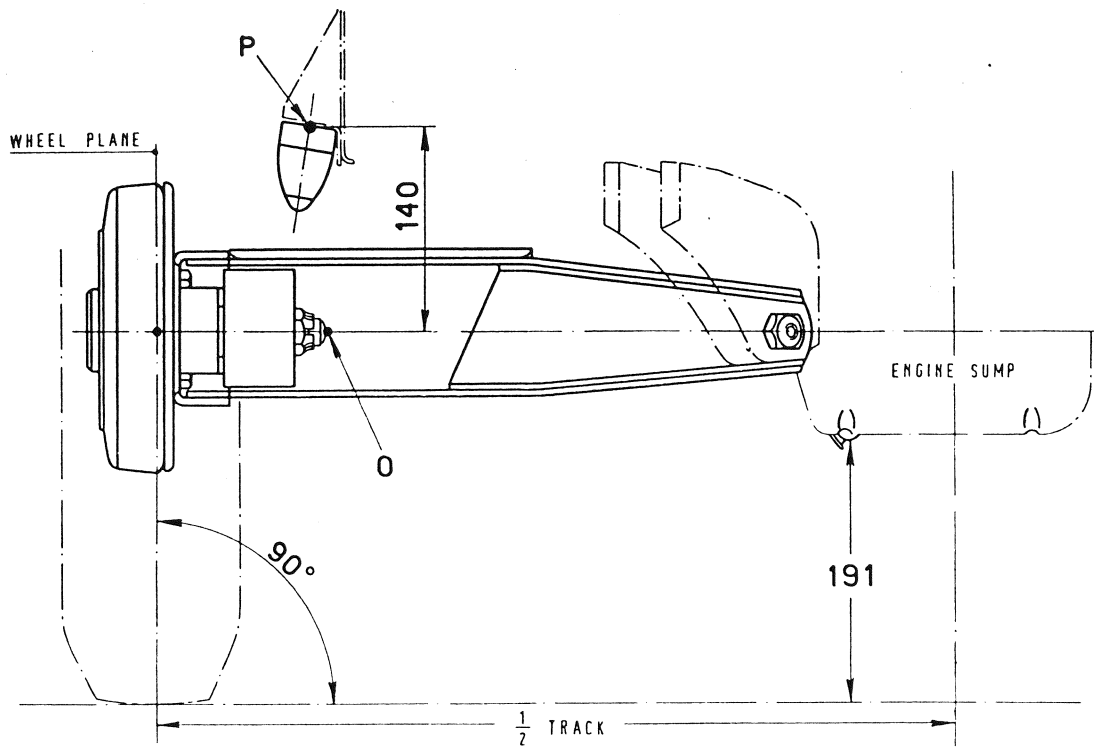

Fig. 316 - Position of rear suspension components, for rear wheel toe-in checking and adjustment.
- $22.56'' \pm .059''$ ($573 \pm 1,5$ mm) (Sedan) and $22.58'' \pm .059''$ ($573,5 \pm 1,5$ mm) (Multipla) apart from car longitudinal centerline (half track, fig. 316).
- c) Lift rear suspensions by compressing the coil springs and shock absorbers. Screw on the fixture lower shank, using wrench A. 74003, until the index registers with the mark stamped on bracket. In this position the wheel plane is vertical and the center (O, fig. 316) of wheel shaft results at 5.51'' (140 mm) from center of hole P in bumper resting plane.